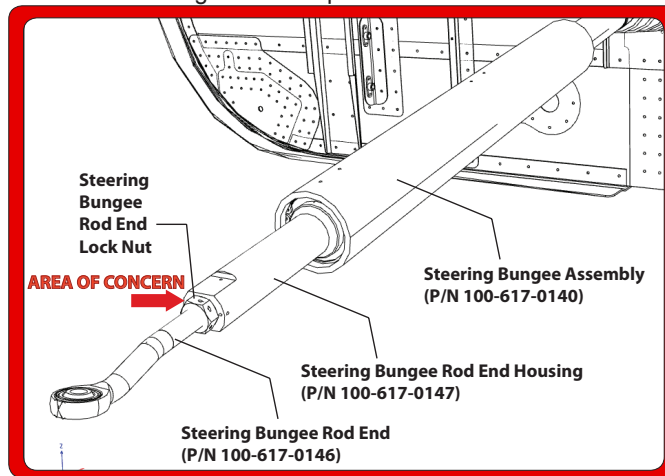

Figure 1: Steering Bungee Inspection Location
Quest Aircraft Company is mandating a one-time inspection and modification to check the Steering Bungee (P/N 100-617-0140) for movement in the area where the Steering Bungee Rod End Housing (P/N 100-617-0147) connects to the Steering Bungee Rod End (P/N 100-617-0146) (See Figure 1). The Steering Bungee modification (FSI-018) consists of installation of a Locking End Cap to the Steering Bungee.
2. Inspect the Steering Bungee assembly (*P/N 100-617-0140*) for movement in the area where the Steering Bungee Rod End Housing (*P/N 100-617-0147*) connects to the Steering Bungee Rod End (*P/N 100-617-0146*) (See **Figure 1**):
- a. Manually move the Steering Bungee in all directions at the area of concern noted in **Figure 1**. Observe for movement between the Steering Bungee Rod End Housing (*P/N 100-617-0147*) and the Steering Bungee Rod End (*P/N 100-617-0146*). There should be no relative movement between the two. If movement is found, the Steering Bungee Rod End Lock Nut should be verified for proper torque (reference the KODIAK 100 Maintenance Manual, 180-200 in-lbs). If relative movement is still found, contact Quest Aircraft for a replacement Steering Bungee assembly.